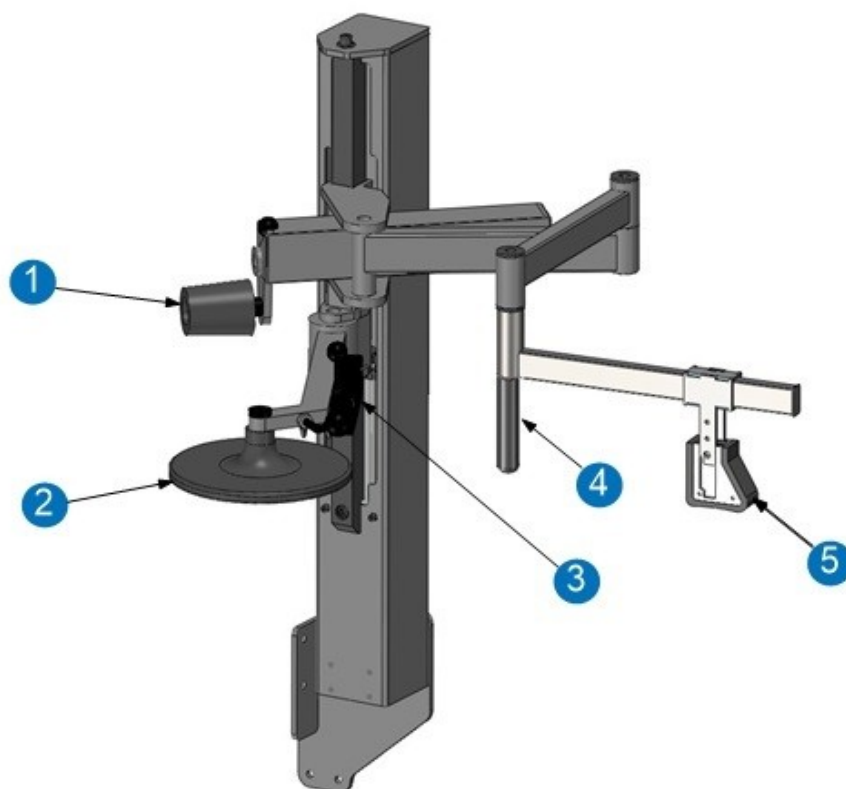
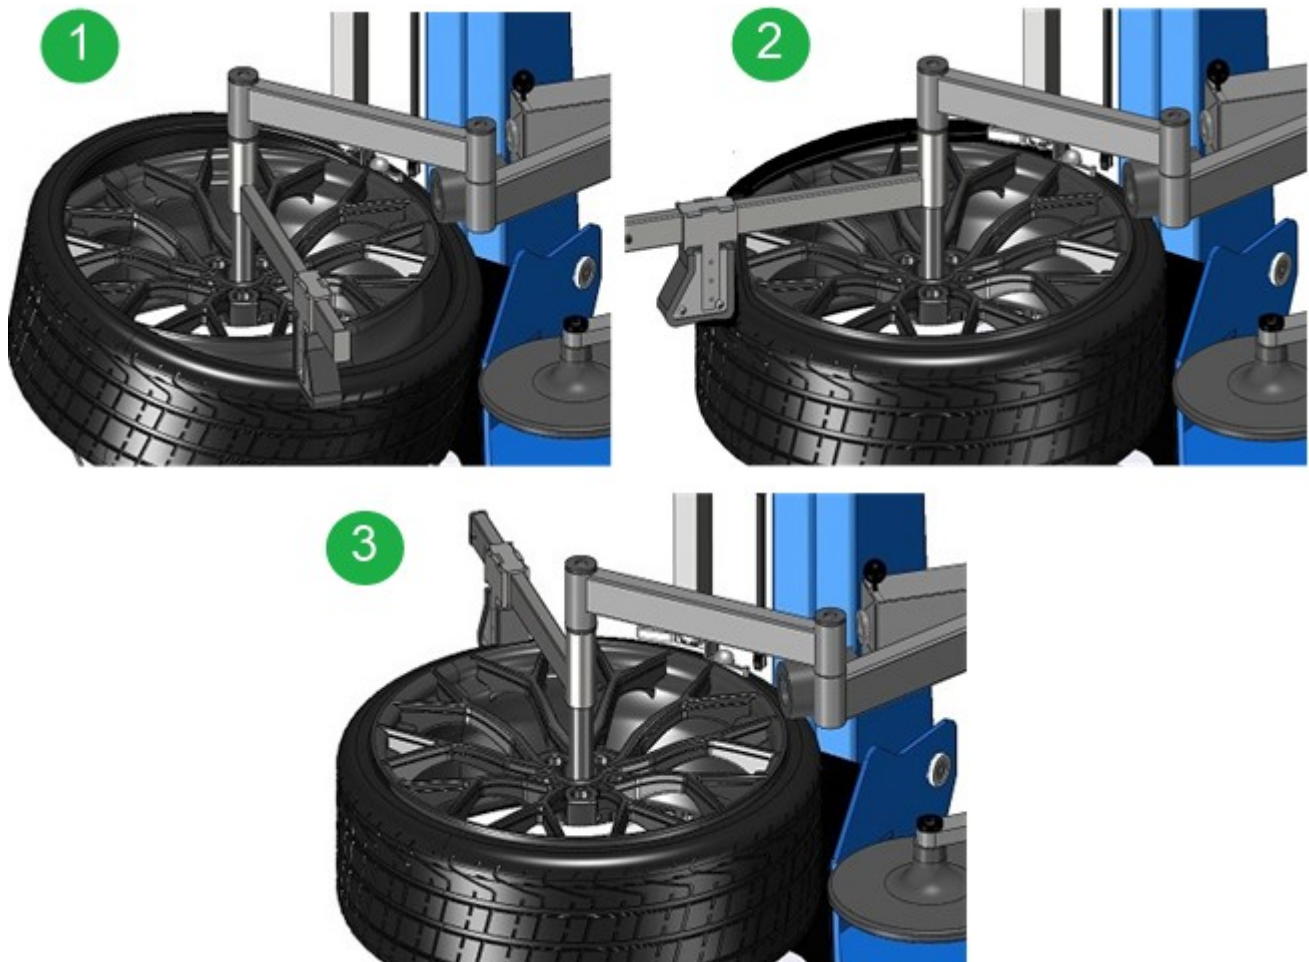

Fig. 15. Assistant K.
Fig. 18. Tyre mounting with assistant K.
To facilitate work with hard or low-profile tyres use the pressing foot (Fig. 15 item 5) and the pressing roller (Fig. 15 item 1).
- Set the pressing roller (fig. 15 item 1) at a distance of approx. 1 cm from the rim edge.
- Lift the lower tyre bead with a disc roller (fig. 15, item 2), and then remove the lower tyre bead from the rim with a lever.
- Mount the lower tyre bead (see TYRE MOUNTING on page 15). Set the pressing roller (fig.15, item 1) and the pressing foot (fig.15, item 5) as shown in fig.18. item 1.